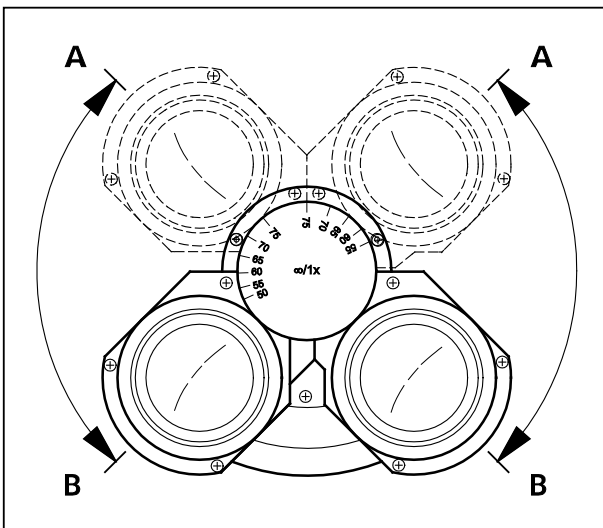

Fig. 30 Adjusting the viewing height
- Swivel the eyepiece tubes upward (Fig. 30/A) or downward (Fig. 30/B) to adjust the viewing height to your individual requirements.